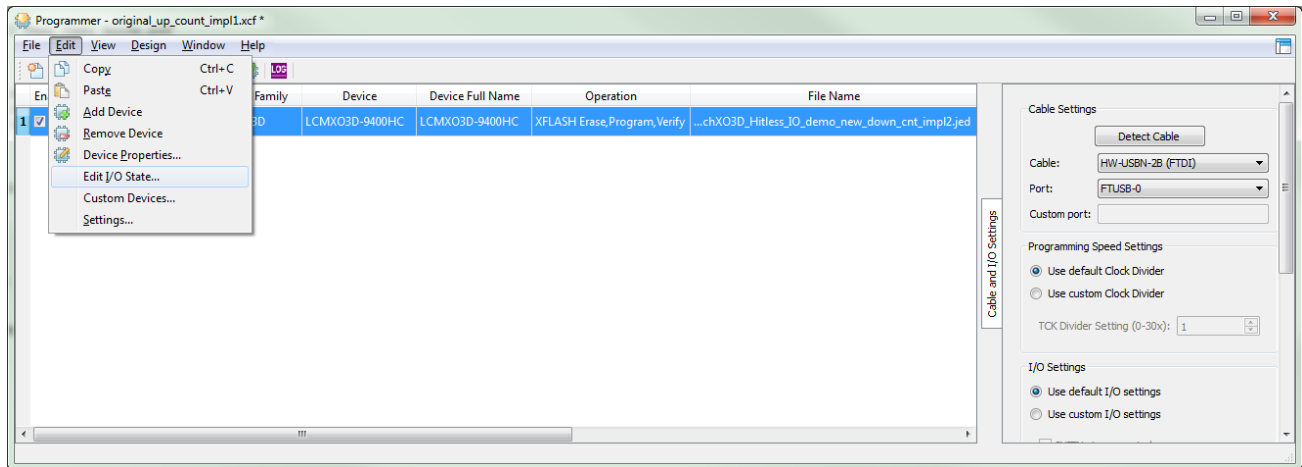

Figure 6.12. Edit I/O State Option
1. In Diamond Programmer, highlight the device row by clicking anywhere of the row. Select **Edit > Edit I/O State ...** (Figure 6.12).